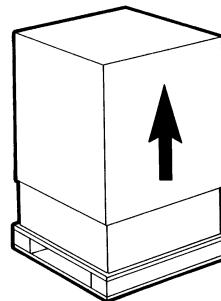

Fig. 1
a) Remove any packing material from the machine, then slip it off from the top (see fig. 1).